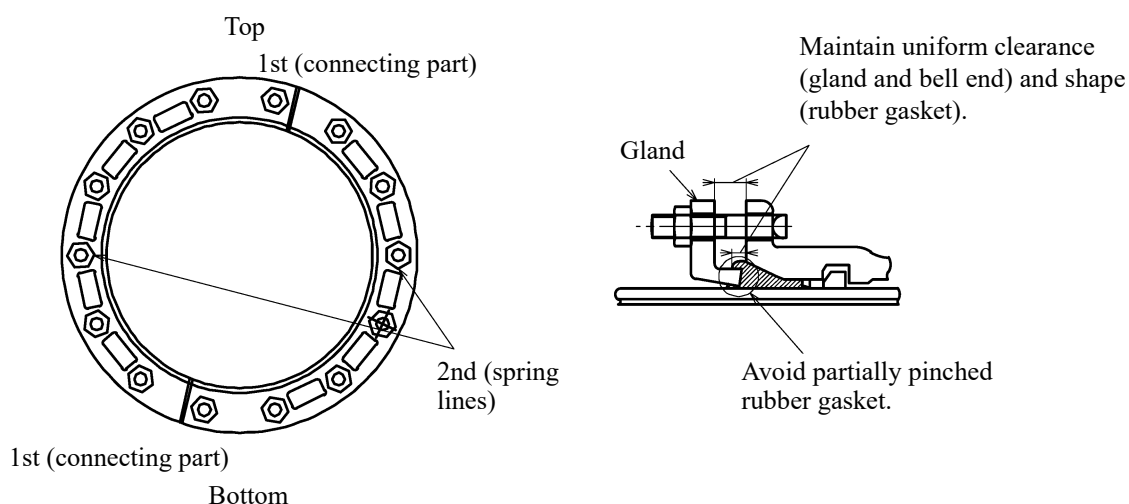

Figure-20 Tightening of bolts and nuts
- 1) Always start with the connecting parts of the gland (1st: top and bottom). Tighten these bolts and nuts simultaneously or alternately. (Refer to Figure-20).
- 2) Tighten the spring line bolts (2nd) in the same manner as the top and bottom. (Refer to in Figure-20).